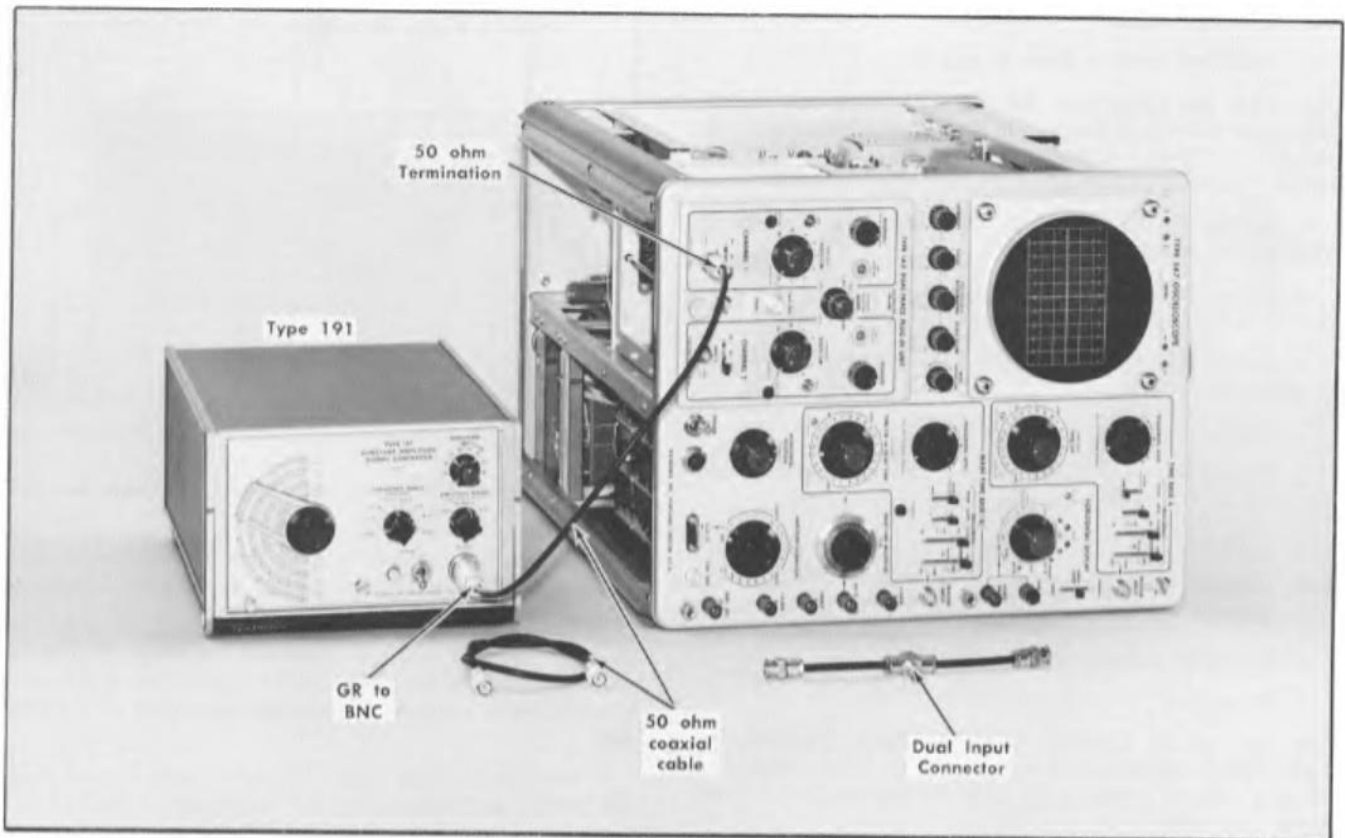

Fig. 7-16. Initial equipment setup for steps 21 through 23.
- a. Equipment setup is shown in Fig. 7-16.